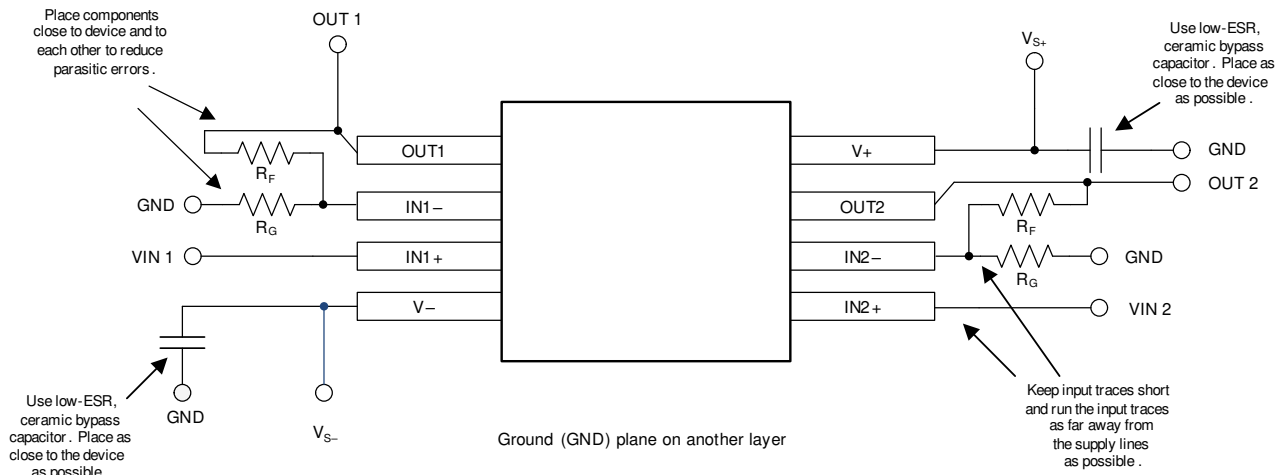

Figure 9-4. Layout Example
- Place the external components as close to the device as possible. As illustrated in Figure 9-4, keeping R_F and R_G close to the inverting input minimizes parasitic capacitance on the inverting input.